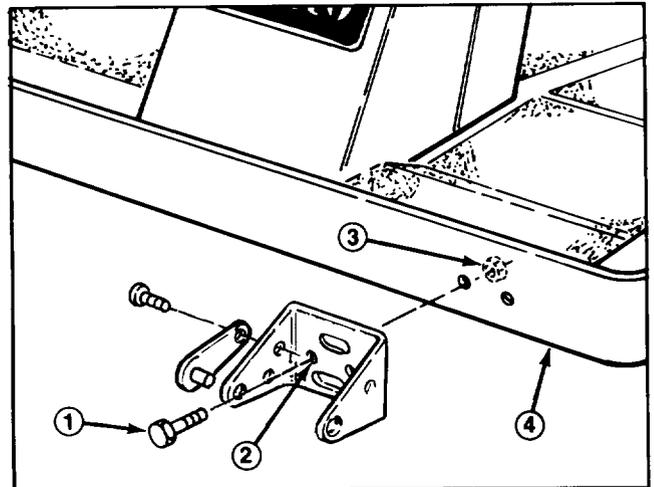

Figure 9
1. 3/8 x 1" flange screw (2) 2. Slotted hole 3. GM 220-D/224
- B. Groundsmaster 217-D and 220 — Align the bracket with the frame mounting holes. Insert (2) 3/8 x 2-1/4" capscrews through the non-slotted bracket holes and frame mounting holes. Install locknuts and torque to 45-50 ft-lb (Fig. 9).